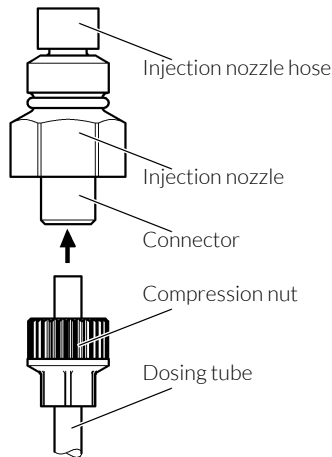

Fig. 8: Injection nozzle
- / Push the compression nut approximately 2 cm over the dosing tube (see fig. 8).